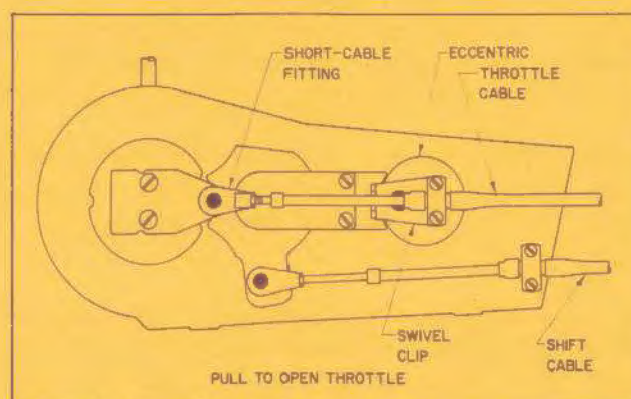

FIGURE 6
For push to open motors such as: Evinrude, Johnson, Gale Products, West Bend and Oliver 16 H.P. the control throttle lever (9) will have to be reversed (See Fig. 6) and the long cable end fitting (16) used. The neutral throttle eccentric (24) must also be reversed. To reverse the neutral throttle eccentric, move the neutral throttle lever (21) forward, out of its detent. Unscrew the 1/4-20 machine screw (31) under the swivel clip (25) until the neutral throttle lever is free to return to its back position.